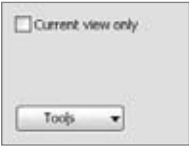

Figure 15.5
**Import or link DWGs in one view only.** Importing in all views can seriously affect performance. Figure 15.5 shows the Link (Instead of Import) check box in the Import or Link dialog box. Linking is better than importing if you don't need to edit the geometry.